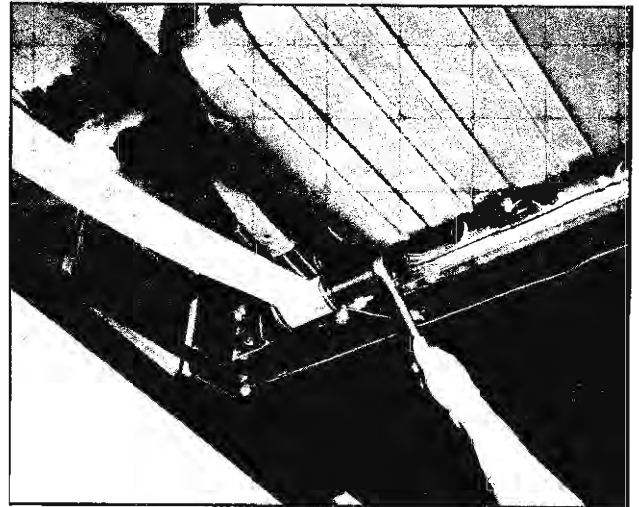

Fig. 12—Disassembling Rear Spring Shackle
4. Remove nuts from rear spring shackle (fig. 12), spread shackle to separate it from spring eye and support bracket and remove spring. Remove rear spring eye bushings.